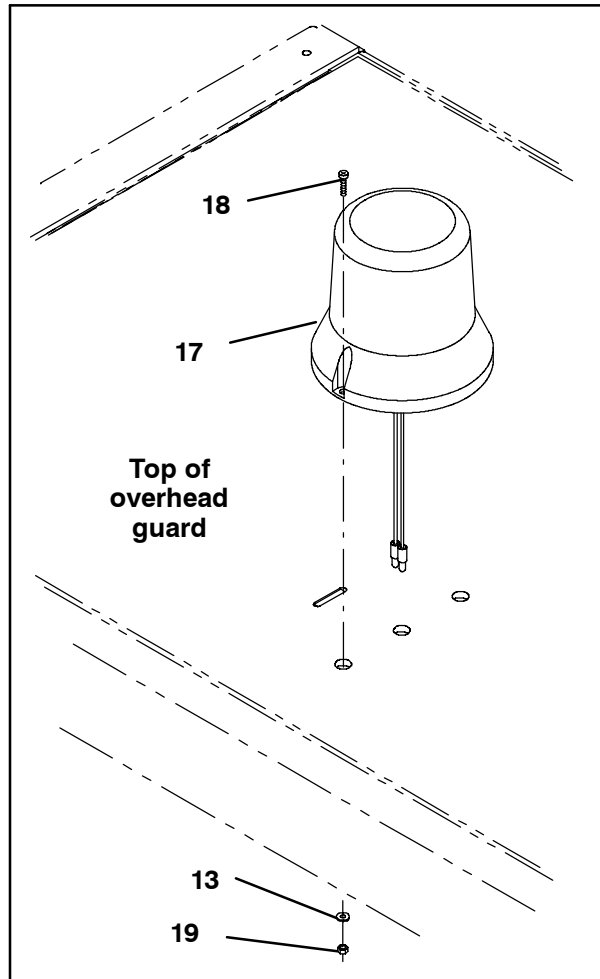

FIG. 3
9. Trim the flashing light wires (17) to 6".
10. Crimp a bullet terminal (25) onto each flashing light (17) wire.
11. Route the flashing light (17) cable through the hole in the overhead guard and use two pan screws (18), two flat washers (13), and two hex nuts (19) to install the light onto the guard. Refer to Fig. 3.